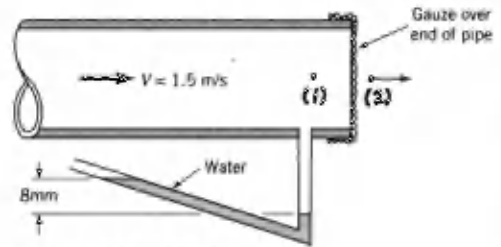

FIGURE P8.7R
8.7R (Minor losses) Air flows through the fine mesh gauze shown in Fig. P8.7R with an average velocity of 1.50 m/s in the pipe. Determine the loss coefficient for the gauze.